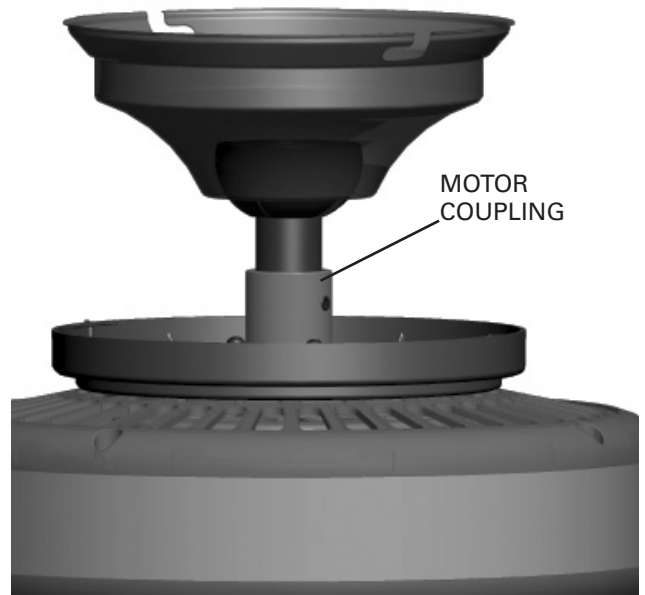

FIGURE 4.
Step 4. Insert the downrod into the motor coupling and turn it clockwise until it stops turning, ensuring that the downrod has bottomed out. Figure 4.